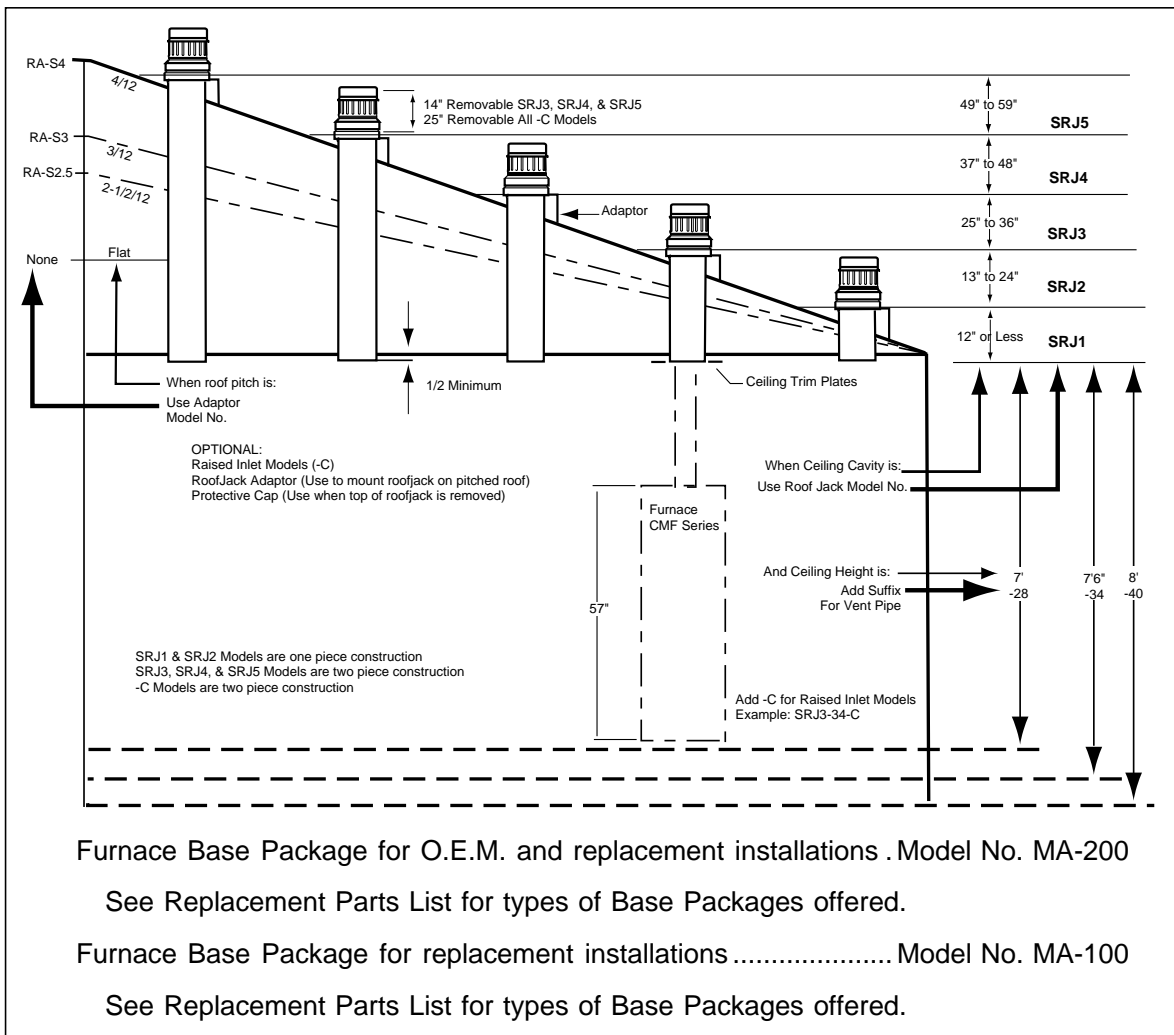

Figure 7. Selection of Roof Jack and Accessories Chart
Refer to Figure 7 to determine SRJ roof jack and appropriate accessories required for your installation.
1. The roof jack and vent pipe as determined from the chart on in Figure 7 must be applied.